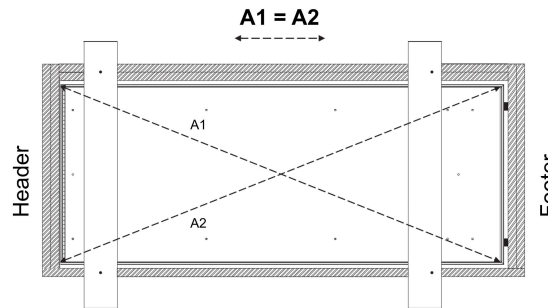

FIGURE 14 : SQUARING THE ATTIC LADDER
K. Before continuing, Installer #1 must measure the diagonals of the aluminum frame to ensure the attic is square. Diagonal measurements A1 and A2 should match within 1/8". See **Figure 14**. If not, your attic ladder door may not close properly. If measurements do not match, adjust the attic ladder moving the footer end side-to-side. This may require adjusting the shims. Be sure to keep the header/hinge end centered in the rough opening as you square the attic ladder. Use shims if necessary.